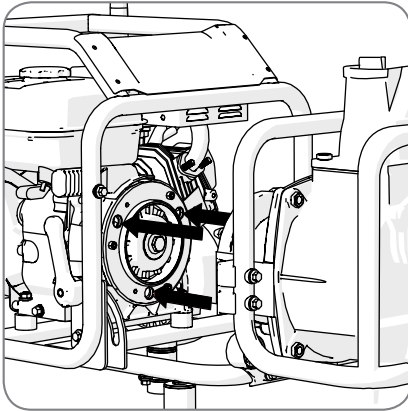
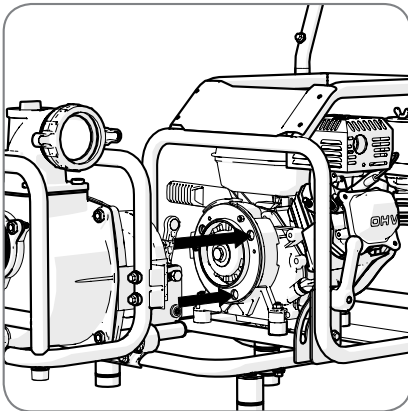
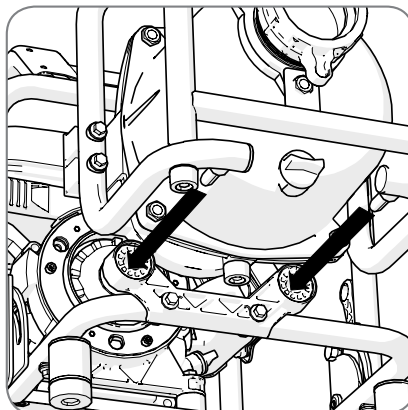

Fig 1a (LH view of 3 locating pins)
Fig 1b (RH view of 3 locating pins)
Fig 1c (showing 2 rear stabiliser pins)
- Hold the accessory by its external frame and offer it up to the engine. Visually align the 3 locating pins (**Fig.1a & Fig.1b**) and 2 rear stabilising pins (**Fig.1c**). Enlist competent help if necessary.